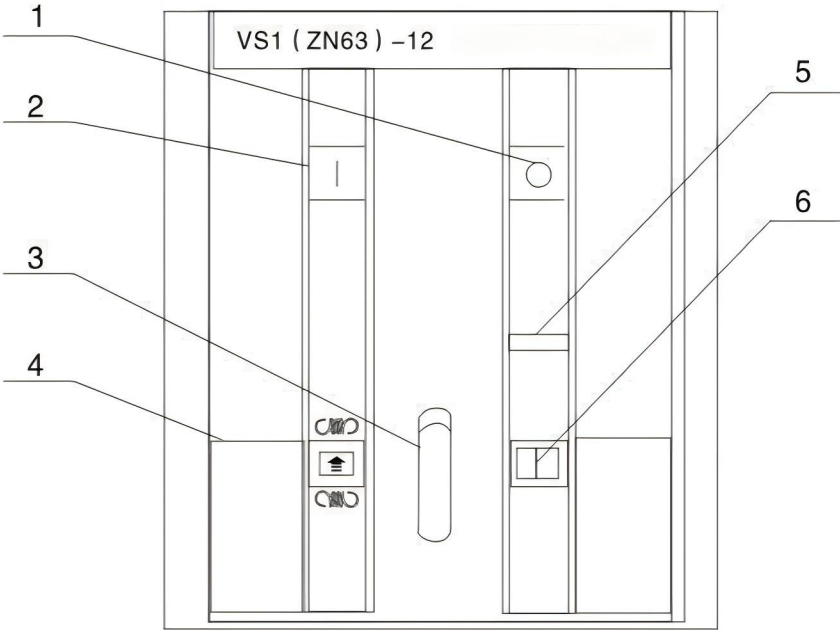

Figure 4
Insert the dedicated energy storage handle into the operating port (item 3 in Figure 4) and swing it. The energy storage indicator will show the energy storage mark pointing to the completed energy storage state in the energy storage indicator window (item 4 in Figure 4).
Closing: Operate the circuit breaker closing button (as shown in item 2 of Figure 4)
Opening: Operate the circuit breaker opening button (as shown in item 1 of Figure 4)
Each operation automatically increments the counter by one position. Observe the corresponding position in the panel observation window (as shown in item 5 of Figure 4).